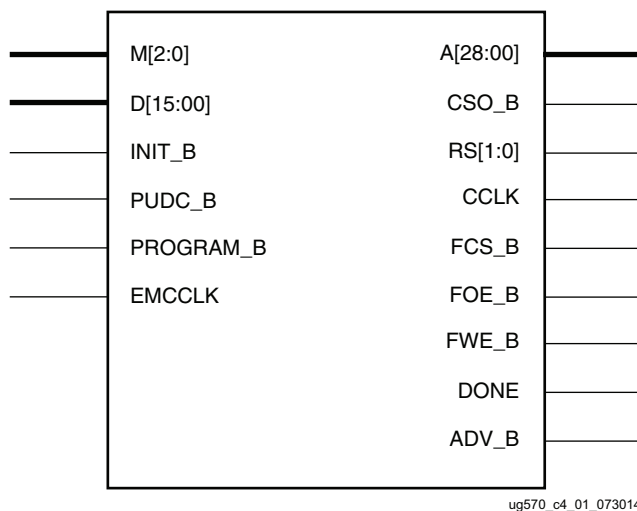
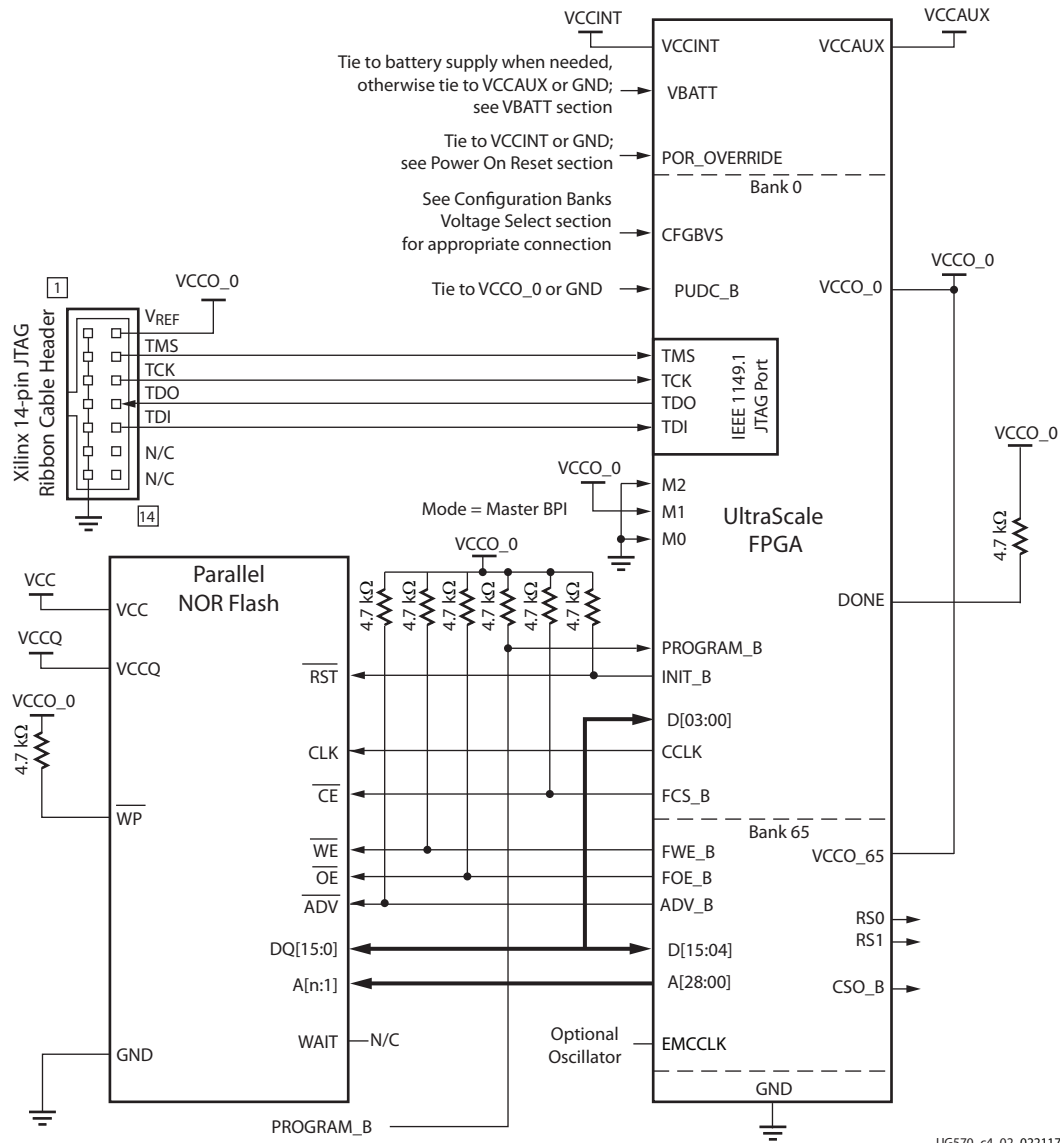

Figure 4-1: Master BPI Configuration Mode Interface
Figure 4-2: Master BPI Configuration Interface Example for x16 Synchronous Read
The master BPI configuration interface is represented in Figure 4-1. Detailed connections between the FPGA and the parallel NOR flash for master BPI configuration mode are shown in Figure 4-2 and Figure 4-4. The FPGA signals are defined in Table 1-9, page 27.
Figure 4-2 provides the connectivity diagram between the FPGA and parallel NOR flash for the master BPI configuration mode to support the synchronous read and the EMCCLK (external master configuration clock). Refer to the External Master Configuration Clock \(EMCCLK\) Option in Chapter 1 for configuration clock option details. Figure 4-2 supports both synchronous and asynchronous read modes. If only asynchronous mode is required for the application, refer to Figure 4-4 for connections that are optional.
Notes relevant to Figure 4-2:
11. The RS[1:0] pins are not connected, as shown in Figure 4-2. This sample schematic supports single bitstream configuration. These output pins are optional and can be used for MultiBoot configuration.